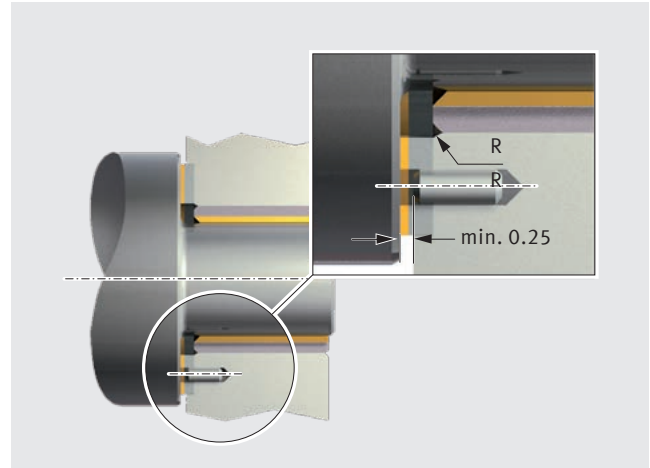

Fig. 42: Attaching a PAW thrust washer in a recess in the housing
- A concentric fit is ensured by the recess in the housing (Fig. 42)
- Unwanted rotation with the shaft is prevented by means of a register pin or countersunk screw (Figs. 42 and 43)
- The screw head or register pin must be recessed by min. 0.25 mm from the sliding surface (Figs. 42 and 43)
- Secure with several register pins or screws (Fig. 42).